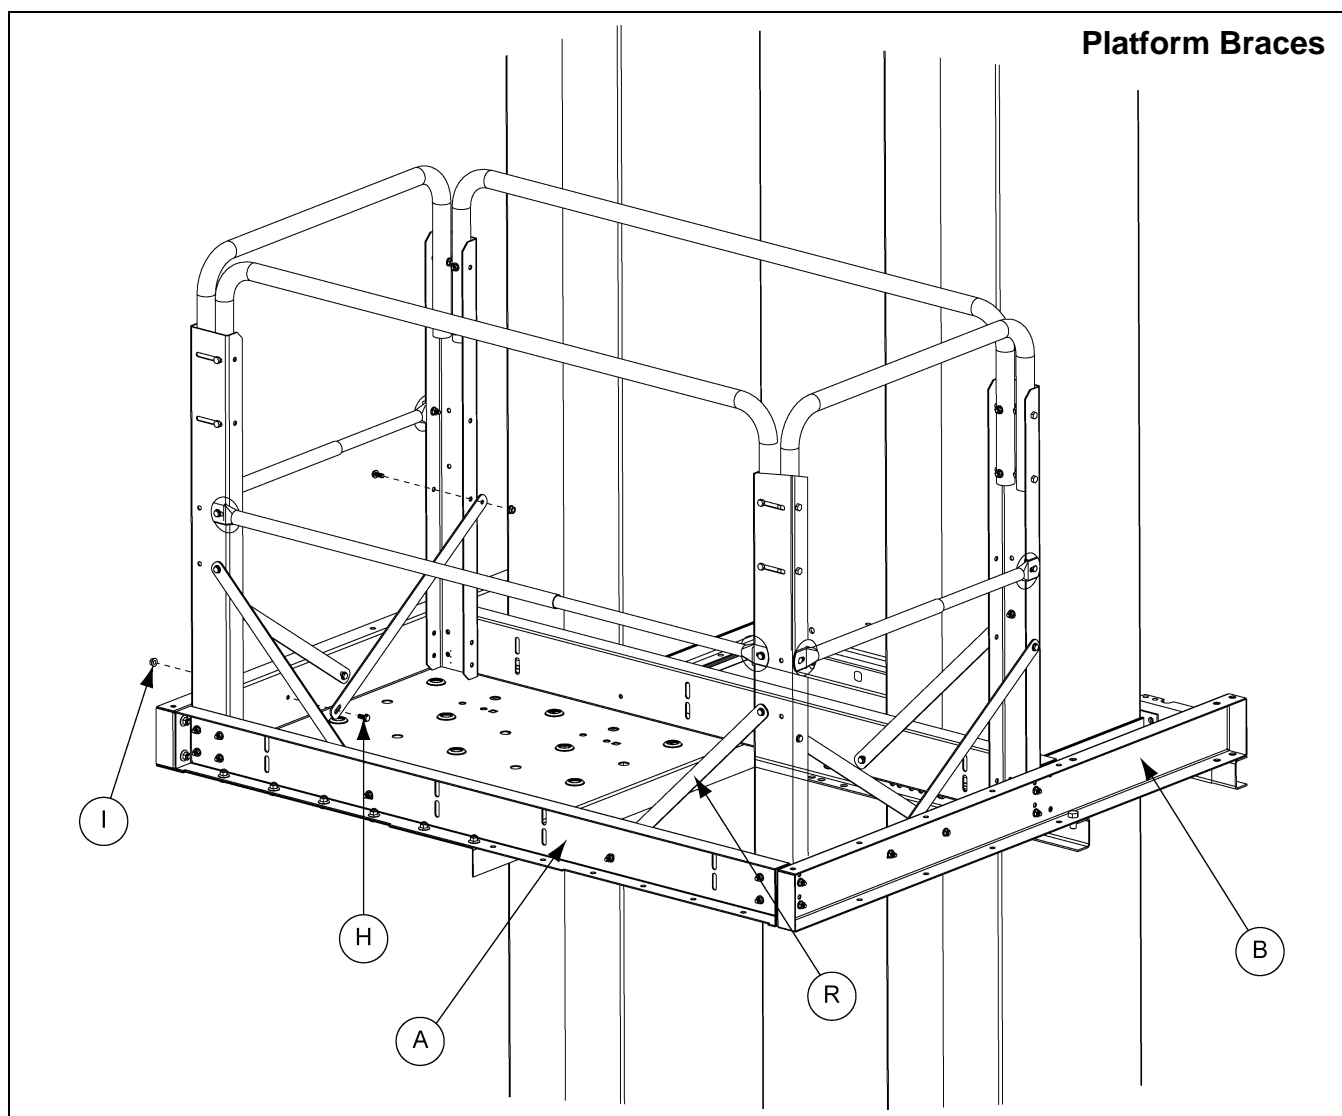

Figure 7L
8. Platform braces must be installed from handrail posts to mounting and cross channels using 5/16" x 3/4" flanged hex bolts (S-6606) (H). Braces should be attached to the outside of the platform post and to the inside of the mounting and cross channels. **NOTE:** Safety cage bars (LDR-5171BE) (R) are used as platform braces/tie angle braces through out this installation. Bolt heads should be on inside of platforms. (See Figure 7L.)